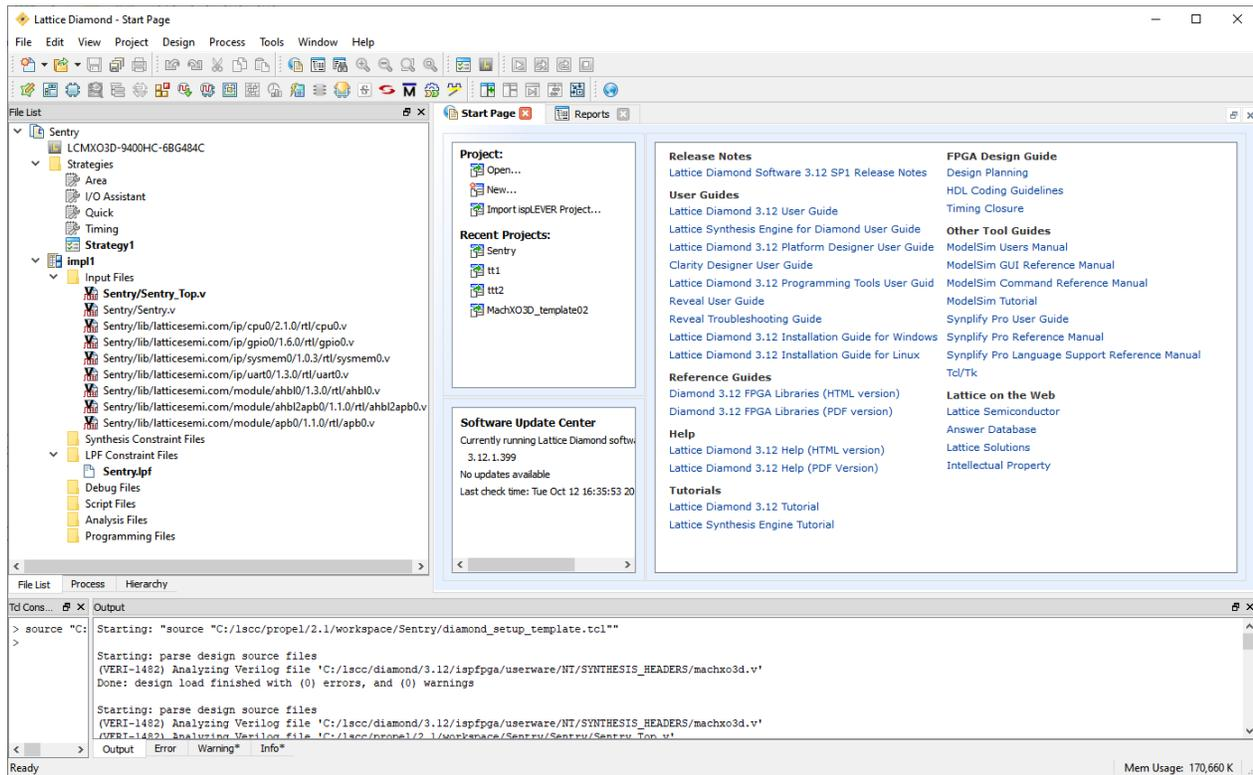

Figure 2.85. Diamond Project
- Lattice Diamond is launched with a Diamond project generated for SoC at the background (Figure 2.85).